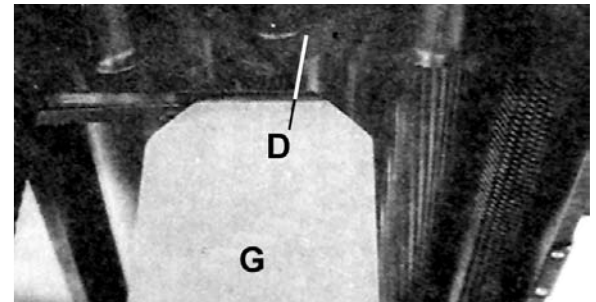

FIGURE 25
3. Place the gauge block (G) on the table directly underneath the cutterhead, as shown in Fig.25. Using a 0.02" Feeler gauge (D) placed on top of the gauge block, raise the work table until a cutter insert just touches the feeler gauge. Do not move the work table any further until the outfeed roller is adjusted.